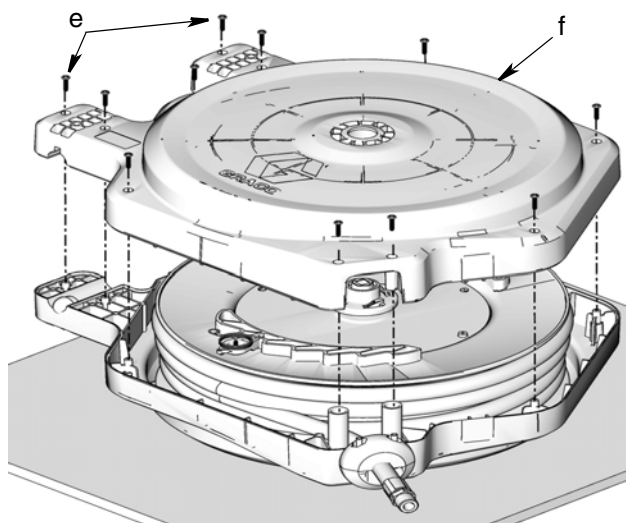

FIG. 10
7. Remove all screws (e) from side enclosure (f) and remove enclosure from hose reel (FIG. 10). Do not discard these parts, you will need them for reassembly.